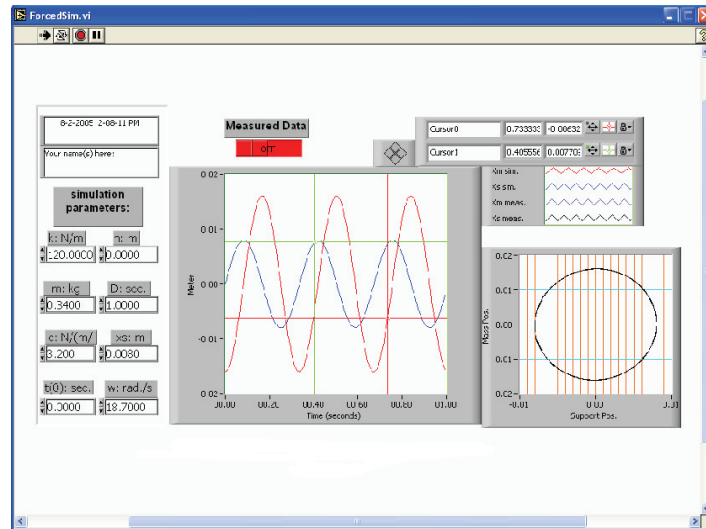

Figure 1.10: The *ForcedSim* program.
4. *ForcedSim* (Figure 1.10) which may be used for measuring the data and simulation of the forced system.